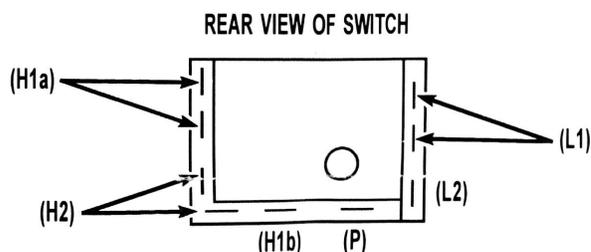

FIGURE 2
5. See Figure 2 for location of terminals on the new switch. Connect wires to the new switch as follows: